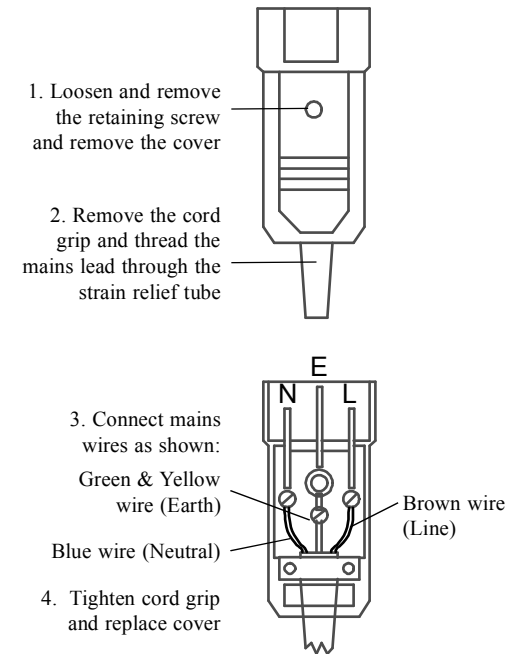

Fig.13 Connector Wiring Diagram
- 2 In most cases, you will need to remove the existing mains plug from your enlarger and replace it with one of the IEC connectors supplied with the Analyser. A wiring diagram is shown in fig.13. If you are in any doubt as to how safely to wire up the connectors, consult a qualified electrician. When you have fitted the connector, plug it into the Enlarger socket at the back of the Analyser.